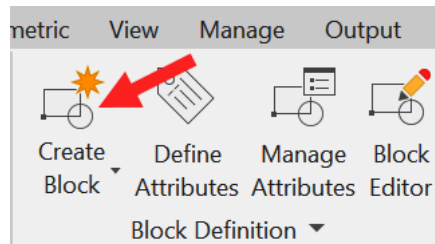

Figure 10.10: The Create Block icon on the Block Definition panel
12. Click on the **Create Block** icon on the **Block Definition** panel, as shown in *Figure 10.10*.